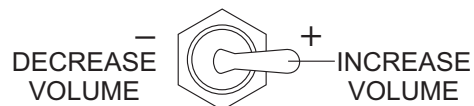

Figure 27. Volume Control
2. Slide the **Volume Control Switch** (Figure 27) to the right to increase the volume to approximately **10 strokes per minute**. Sliding the volume control to the left will **decrease** pump volume.
- Slide the **Volume Control Switch** (Figure 27) to the right to increase the volume to 25-30 strokes per minute. Slowly discharge the concrete from the ready-mix truck into the hopper and completely fill it. Keep the pump running continuously until concrete is discharging at the end of the delivery system. If the pump is stopped during this procedure, a blockage may occur.